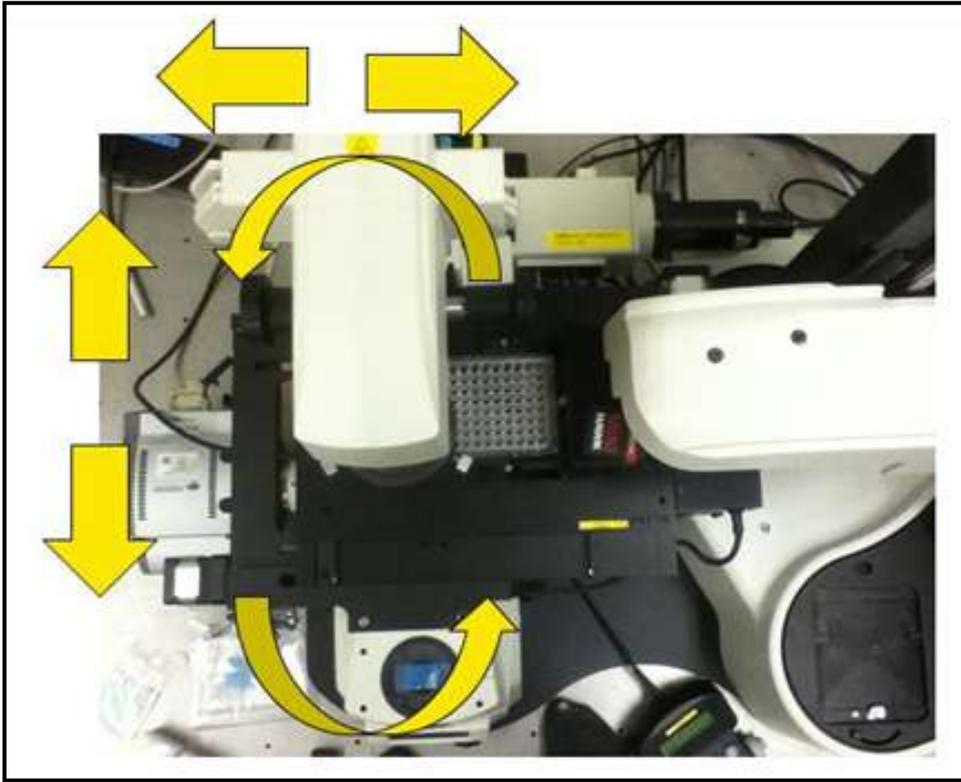

Fig: 36
21. Fine adjustment of the microscopes position maybe required now. (Fig 36)